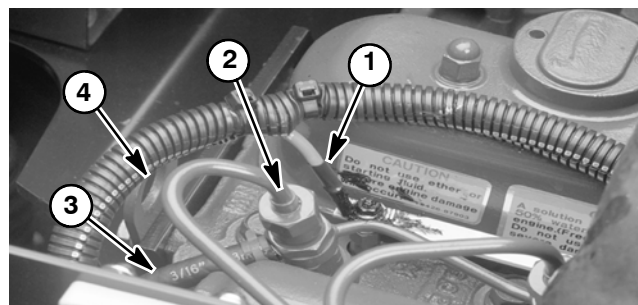

Figure 22
- B. Glow plug bus (Fig. 22) and fuel stop solenoid.
12. Remove cable ties securing the wire harness to the front lift tab and other engine parts. Connect hoist or lift to the front and rear lift tabs (Fig. 22 and 23).
3. Connect hoist or lift to the front and rear engine lift tabs (Fig. 22 and 23).